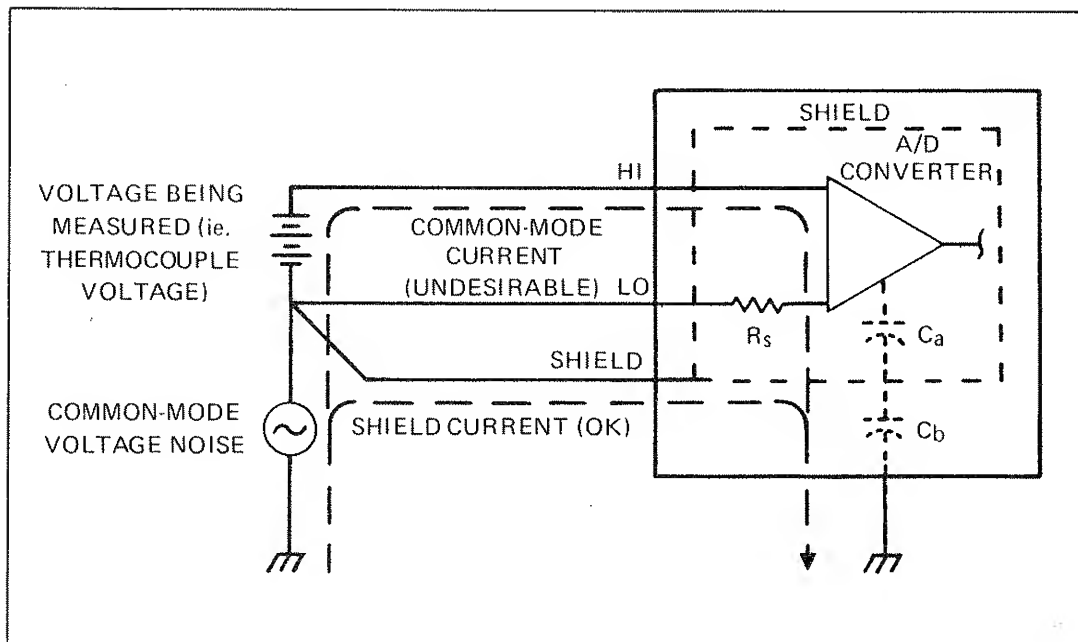

Figure 608-1. Shield Connection for Optimum Common Mode Rejection
608-7. The purpose of the SHIELD connection is to improve rejection of common-mode voltage noise. This is done by connecting the SHIELD lead to the LO lead at the measurement point as shown in Figure 608-1. In the presence of common-mode voltage, this connection provides a path for the current which flows as the capacitance between the A/D Converter and the chassis is being charged or discharged. Since the A/D Converter and the Shield (built into the instrument) are forced to track the same voltage, the common-mode current in the HI and LO leads is minimized. It is this current which produces unstable readings. It is important to note that HI, LO and Shield are fully isolated and capable of being safely floated to 350 Volts above ground. The following guidelines should be followed when connecting the Isothermal Block Connector:
2. If significant common mode voltage (greater than one volt) is present, connect SHIELD to LO by means of a third wire at the measurement point as shown in Figure 608-1.